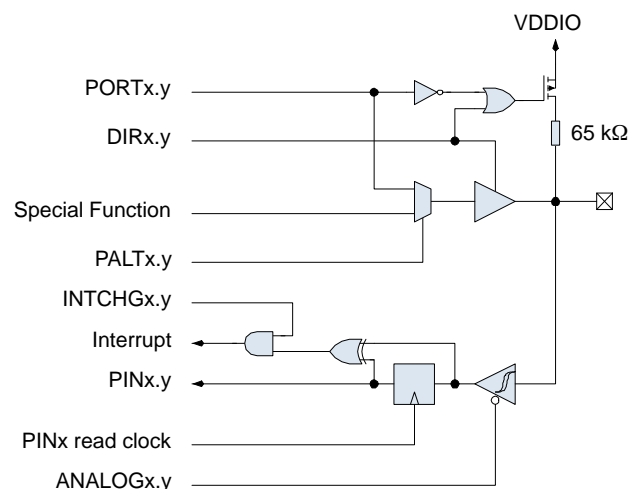

Figure 8. Port Pin Schematic
Figure 8 shows the GPIO logic. The DIR register bit determines whether the port pin acts as an output (1) or an input (0).